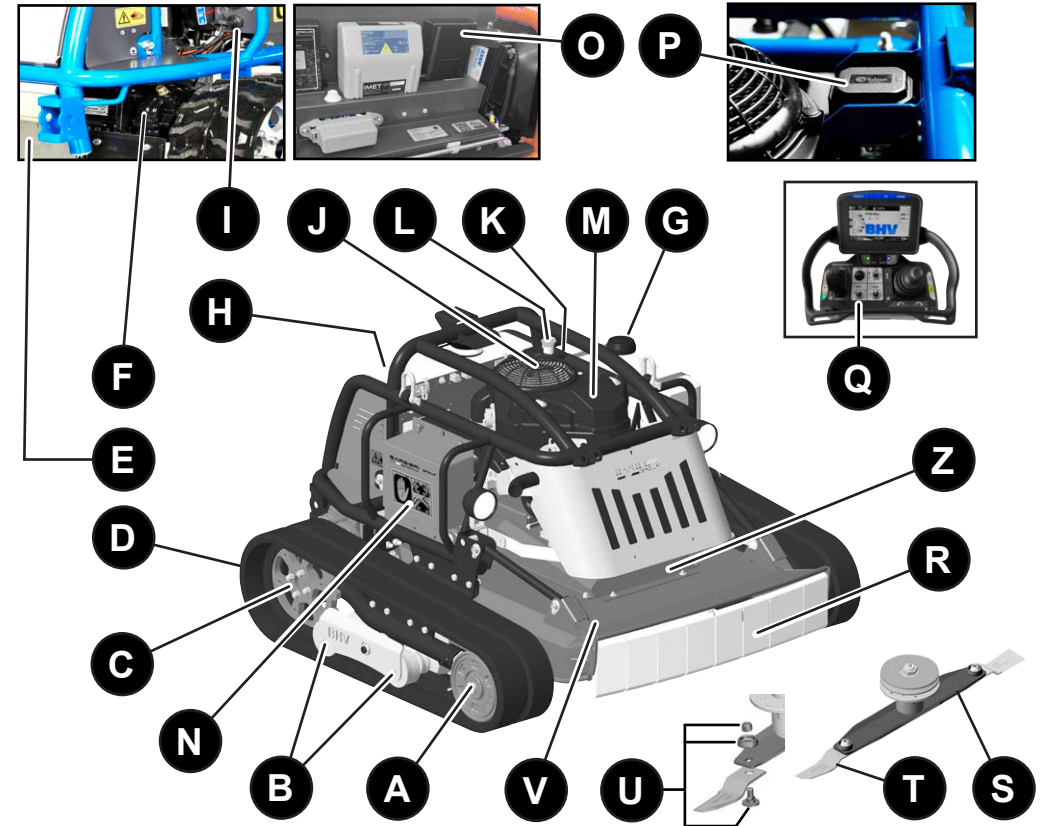

Fig. 7
4.1 NAME OF MAJOR COMPONENTS (Fig.7)
The engine is equipped for a filter for the inlet air. In the case of dry grass and congested areas, the air filter must be cleaned very often (every 2 hours). If dry blades of grass stick to the automatic openings of the engine's power generator (Fig. 7 - J), it is very likely that they are also in the air filter, which must be cleaned. (see Section 7.1.2). A clogging of the air filter can lead to a loss of engine performance. The filter should be cleaned daily under normal conditions.
To switch off the engine, press the red alarm button at any time (Fig. 10 (O)). The engine suddenly stops. Shortly after stopping, remember to release the alarm switch in its normal position. The engine can also be switched off by the alarm button on top of the machine (Fig.7 (L)), by turning off the star key (Fig.7 (I)) or anytime the radio connection with the remote control is interrupted